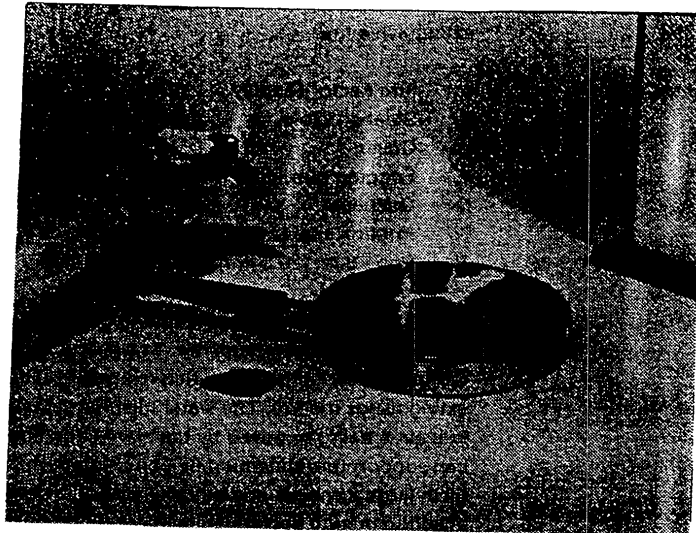

Figure 14. Water Mist or Fog Absorbs or Removes Heat and Extinguishes the Fire.
3. Hold the fogging gun about one foot (30.5cm) from the crucible and spray the water mist over the flaming vapor (see Figure 14) Come in at a low angle, directing the spray at the base of the flame.